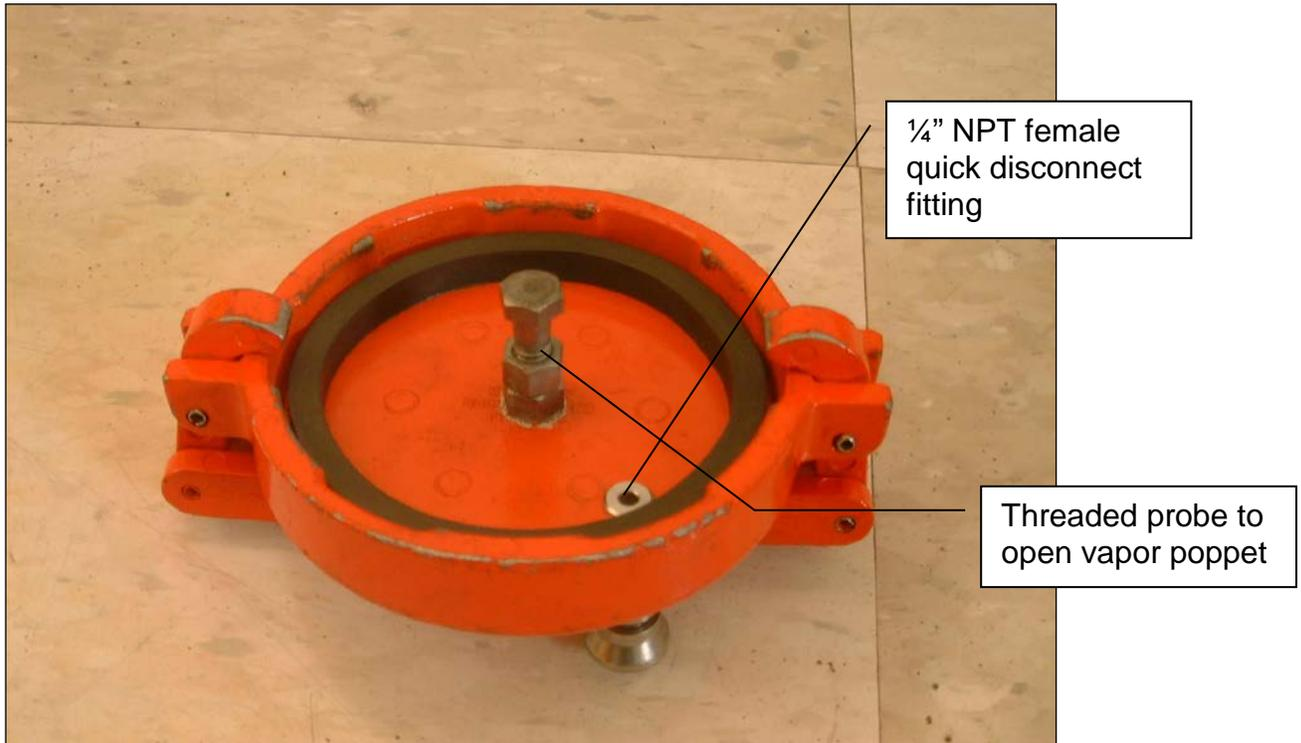

Figure 10-2
- 5.1.3. Use "Tygon tubing" or equivalent to connect the manometer to the dust cap (Figure 10-2). Install a male quick connect fitting (Swagelok part number SS-QC4-5-400 or equivalent can be used) on one end of a ferrule stainless steel tube (or equivalent material). Connect one end of the "Tygon tubing" to the stainless steel tube and connect the other end to the digital manometer (Figure 10-2).
- 5.3.2. Use "Tygon tubing" or equivalent to connect the manometer to the test port (Figure 10-2). Install a male quick connect fitting (Swagelok part number SS-QC4-5-400 or equivalent can be used) on one end of a ferrule stainless steel tube (or equivalent material). Connect one end of the "Tygon tubing" to the stainless steel tube and connect the other end to the digital manometer (Figure 10-2).
- 7.5 If the Vapor Pressure Sensor is installed at the vapor return line of the dispenser, attach the dust cap or vapor coupler test assembly to the Phase I vapor adaptor (Figure 10-2).